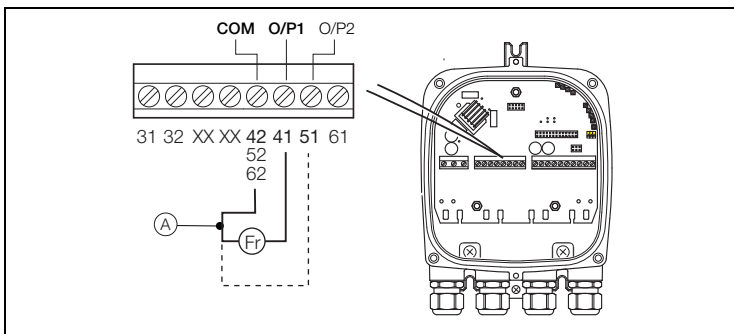

Fig. 3.12 Connecting a Frequency Counter to Pulse Output 1
2. Referring to Fig. 3.12 – connect a frequency counter across pulse output 1 (A).